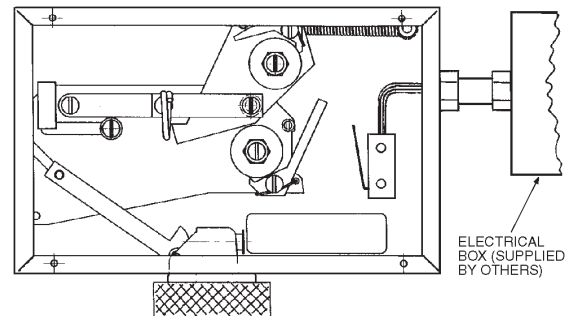
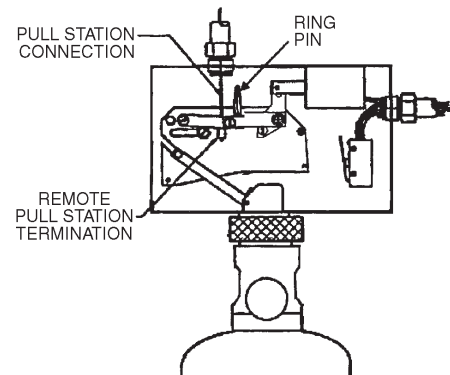

Figure 4-21. Snap-Action Switch Installation in Model MCH3/NMCH3 Control Head.
Figure 4-22. Snap-Action Switch Installation in Model ECH3 Control Head.
- The Model MS-SPDT, MS-DPDT, MS-3PDT, or MS-4PDT Electrical (Snap-Action) Switch is available for use where an electrical output is required. These switches can be field installed in the control head. See Figure 4-21 and Figure 4-22 and refer to Instruction Sheet, Part No. 551159, included with switch shipping assembly, for detailed mounting instructions.